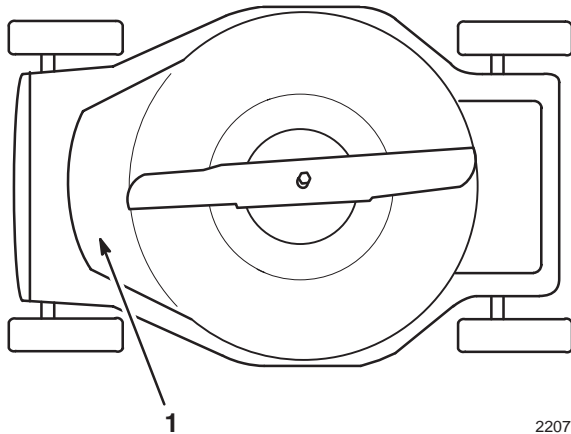

Figure 22
- Clean the underside of the mower housing. Be particularly careful to keep the front cavity clear of all debris (Fig. 22). Remove dirt and grass clippings with a hardwood scraper. Avoid burrs and sharp edges.